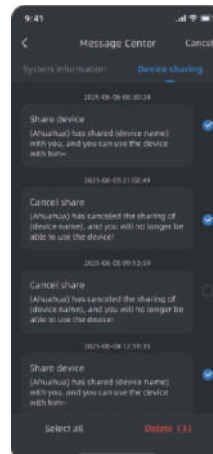

Figure 4
4) Figure 4: Click on **"Delete"** in the upper right corner to select some or all messages for deletion, but it will not affect the shared devices.